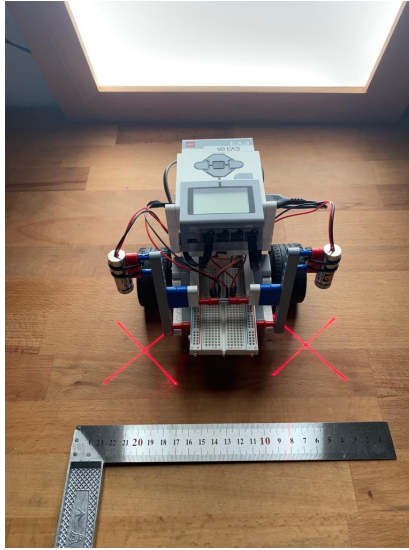

Figure 1.1: Rosa - Front View
- Our robot, 'Rosa' is designed using the **Lego Mindstorms EV3**(evolution 3) kit. Figure 1.1 shows our final design, with the measurement facility for the robot intact.